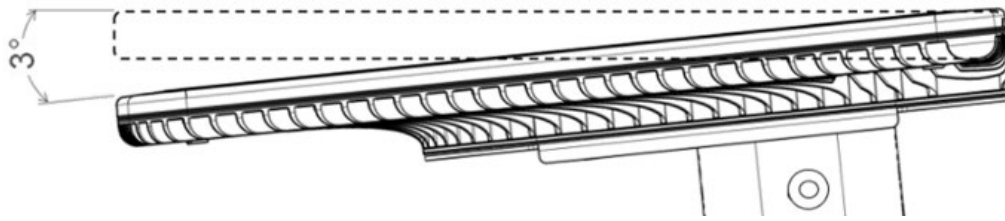

Figure 24: Tilting the ODU forward to 3-degrees
- The stanchion is adjustable and allows for pivoting around the lower bolts. These bolts were installed first in step 3 when connecting to the mount and left loose enough to allow pivoting. The curved slot in the center of the stanchion on either side controls the angle of the stanchion, which can be locked in place using the proper bolts. The ODU requires 3-degrees of forward tilt where forward is the direction away from the bridge along the short side of the panels (shown in Figure 24). An inclinometer must be used to ensure the ODU is at the desired 3-degrees of forward tilt, after which all four bolts may be tightened to their respective torques.